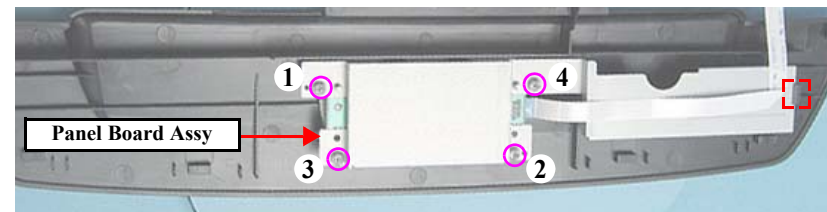
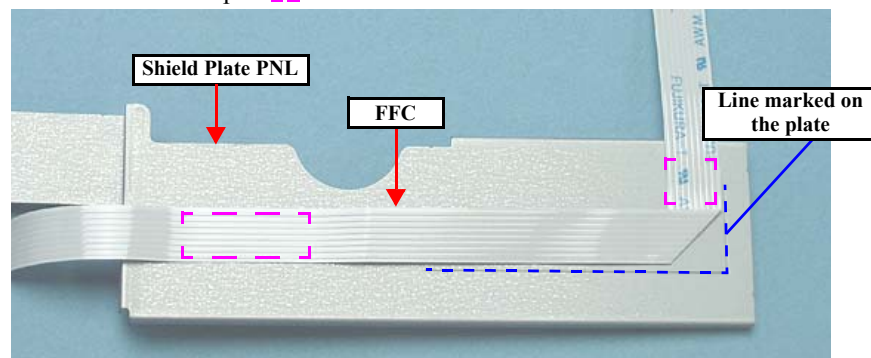

Figure 4-74. Removing the Shield Plate PNL (R260/R265/R270)
Figure 4-77. Removing the FFC (R260/R265/R270)
- For the R260/R265/R270, when installing the FFC to the Shield Plate PNL, align the FFC edges with the lines marked on the plate as shown in Fig.4-77, and secure it with double-sided tape. When screwing the Panel Board Assy, tighten the screws in the order given in Fig.4-74.